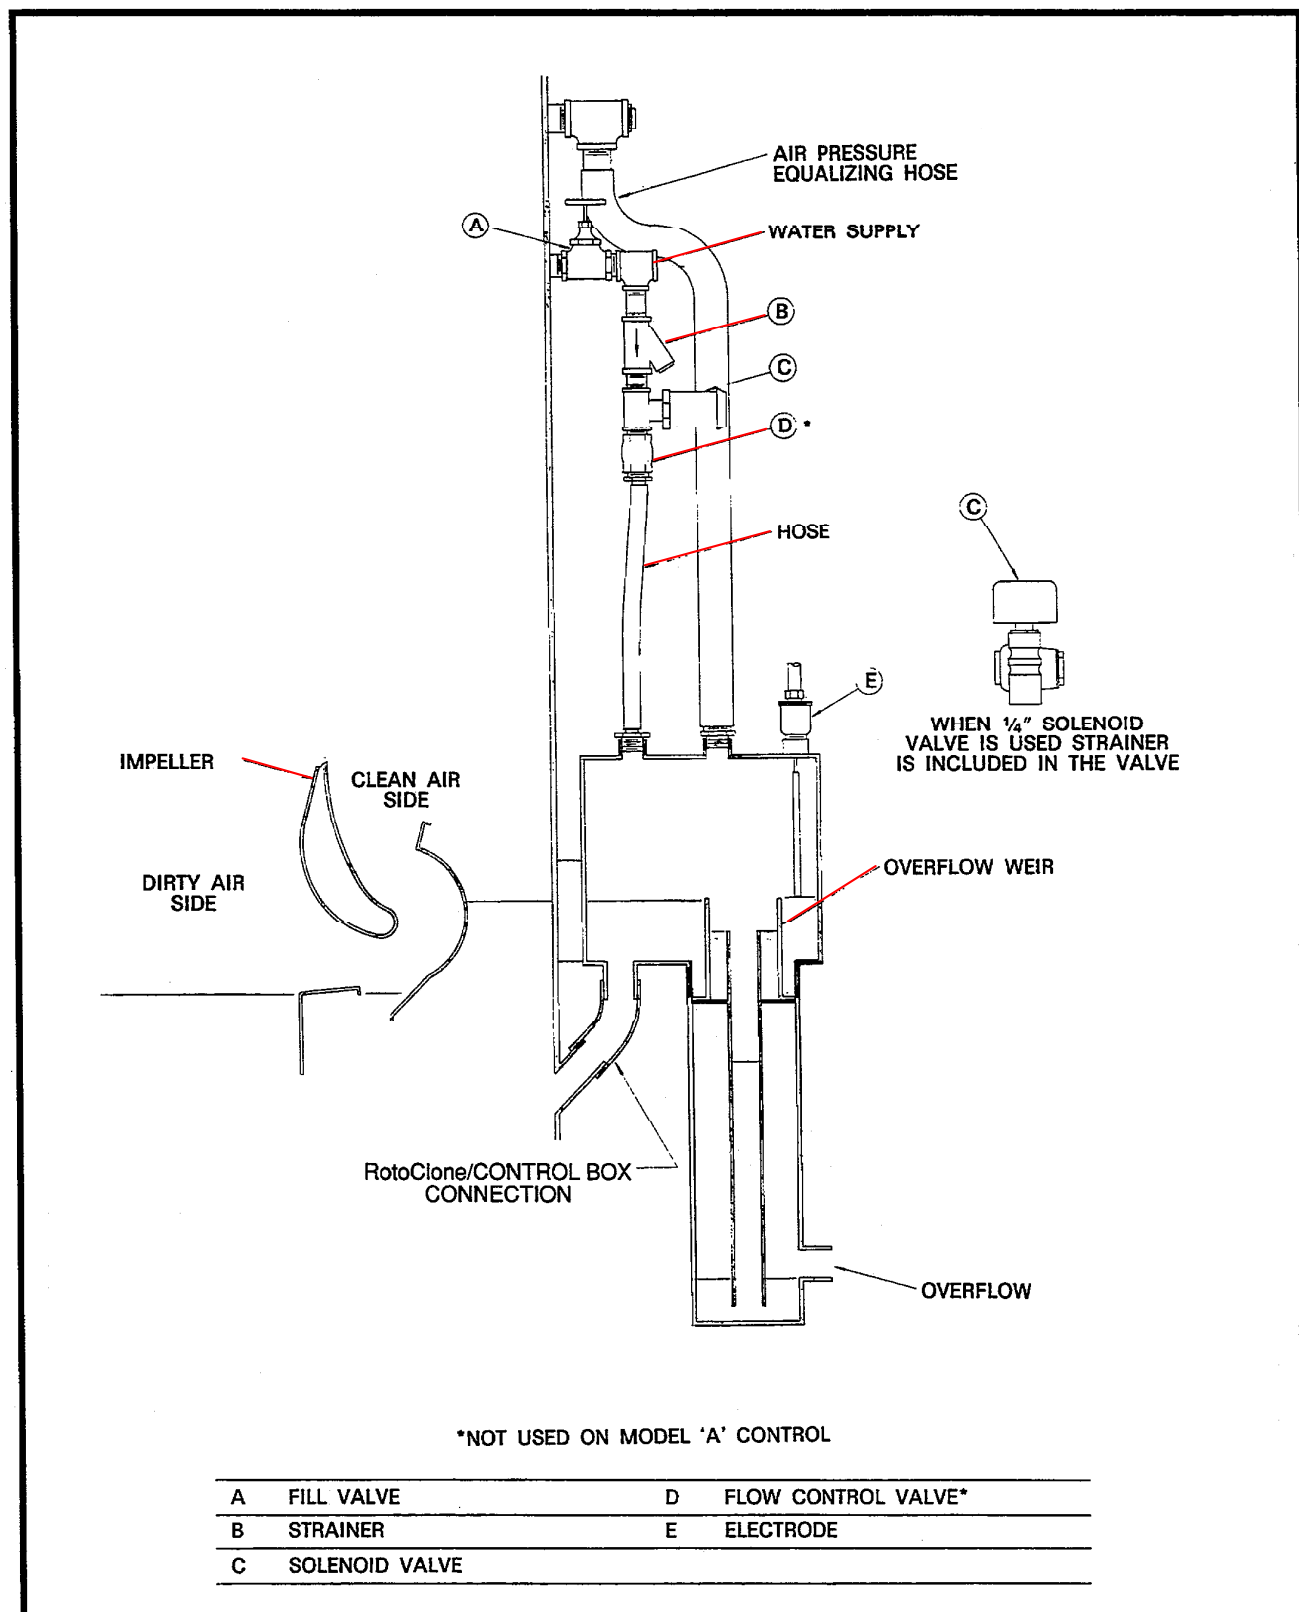

FIG. 6. Control, Model "SV" with LWSC or Model "A" Water Level (Type 'N' Model 'B' RotoClone).
2. Model "SV" with low water safety control (Figure 6) – This control should be used for magnesium and other explosive dusts. In addition to the standard "SV" controls, this model contains an electrode, electrode holder, and a timing relay. It does not use the flow switch.
3. Model "A" Control (Figure 6) – This control box is used when there can be no water overflow from the RotoClone. Makeup water will be added to the system